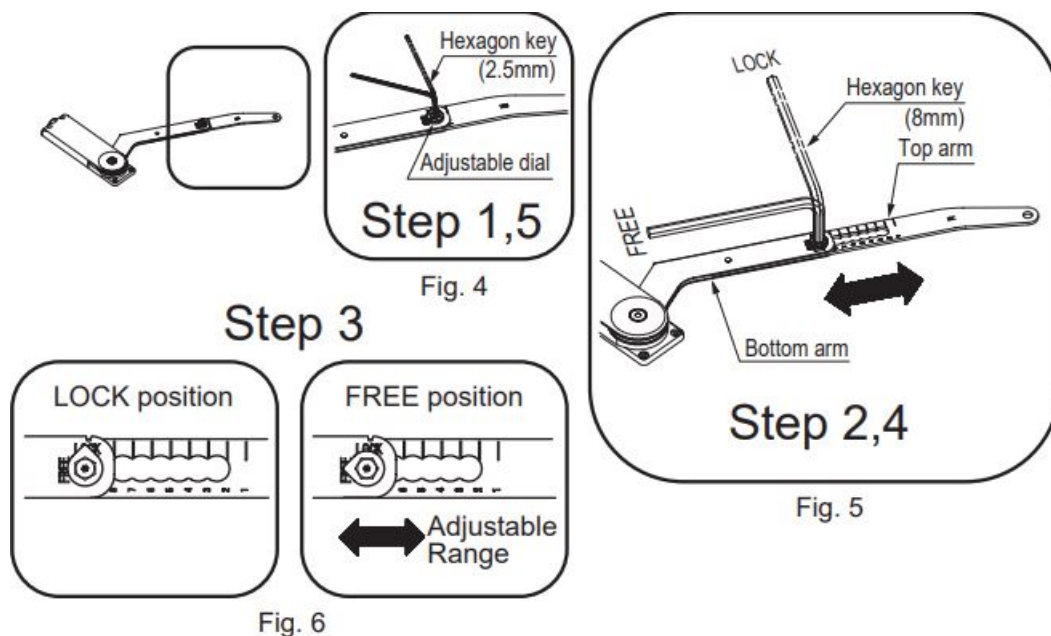

Fig. 4, 5, 6 Arm adjustment procedure (e.g. : type of arm M)
- Step 1. Using hexagon key (2.5mm) loosen the screw in the center of adjustable dial on the side-face of arm. ( Fig. 4 )
- Step 5 Using hexagon key (2.5mm) tighten the screw in the center of adjustable dial on the side-face of arm. ( Fig. 4 )